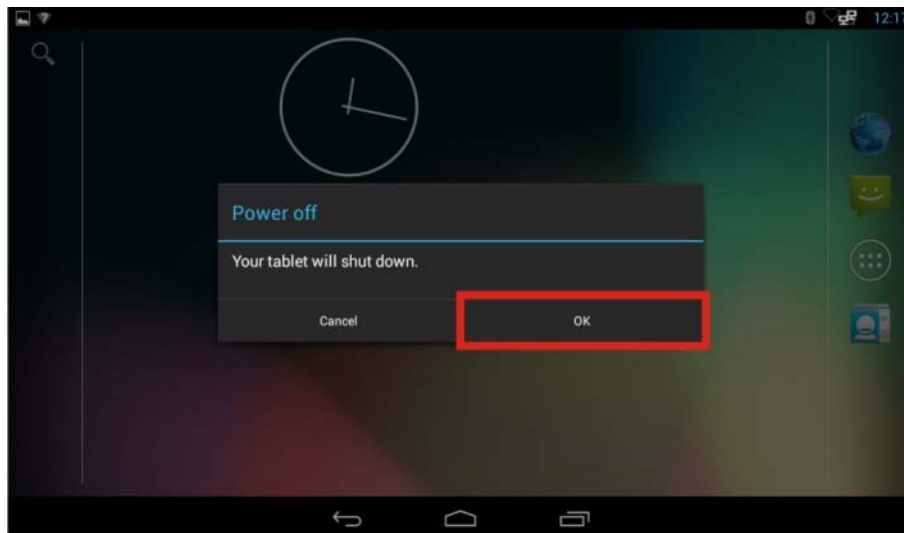

Figure 4-3: Power-off Confirmation Screen
- Step 2:** A message window prompts as shown in **Figure 4-3**. Click **OK** to turn off the system.